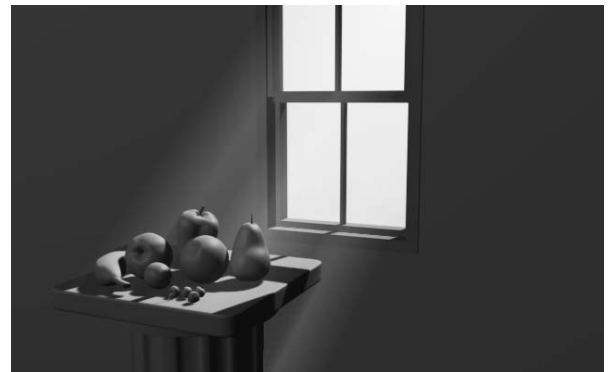

Figure 10.51
11. Volume Light will be added to the rollout, as shown here. Render the scene. You should see a render similar to Figure 10.51.